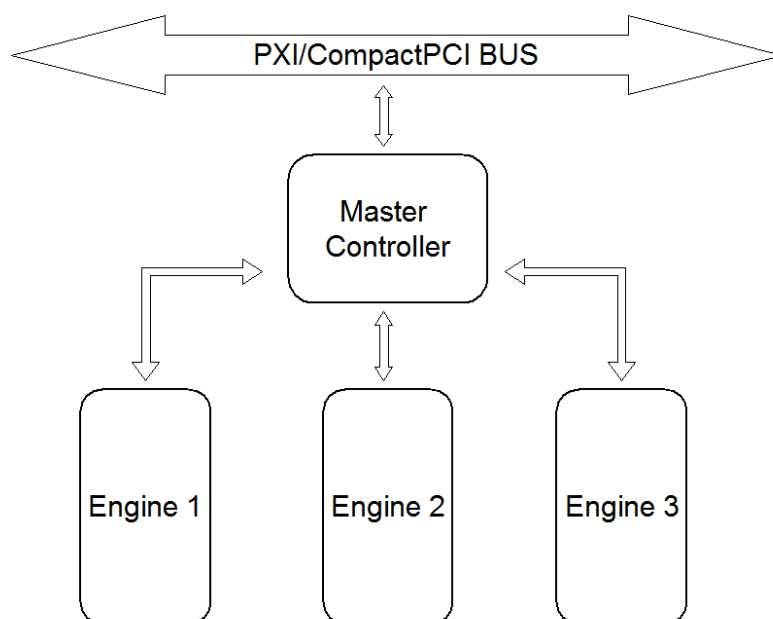

Figure 3: FlashRunner FRPXIA3 schematic blocs
- Figure 3: FlashRunner FRPXIA3 schematic blocs 15